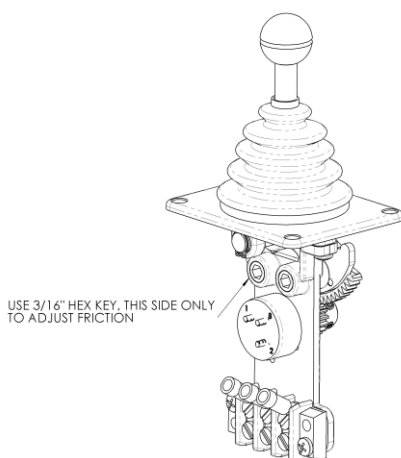

Figure 10: Adjusting friction lock, '-W' models.
2. Locate the set screw in the left most position when viewed from the head of the screw, refer to Figure 10